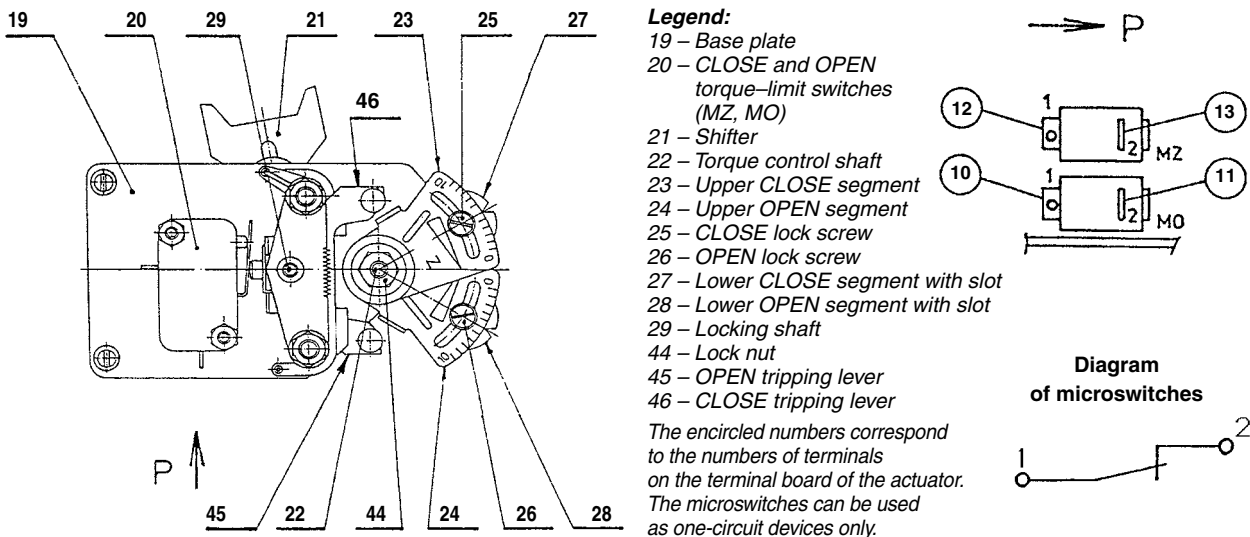

Fig.3 - Torque-limit switching unit
a) The torque-limit switching unit (Fig. 3)
To adjust a different tripping torque from that adjusted at the factory, the procedure is the following: Loosen the lock nut 44 (see Fig. 3) and then the lock screw 25 (for the CLOSE direction) or 26 (for the OPEN direction). Place a screwdriver in the slot of the upper segment 23 or 24 and turn the segment till the slot in the segment 27 or 28 tallies with the respective scale graduation line. This scale division line can be determined so that the difference (in Nm) between the maximum and the minimum adjustable torques is divided by the number of divisions between the marks of